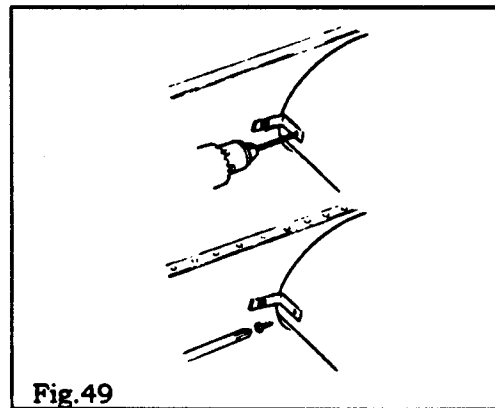

Fig.49
9.2.2.15 Drill through the holes in the vent securing brackets into the outer tube and appliance outer collar for #6 screws. *Make sure that the drill does not penetrate the inner tubes.* Secure the vent unit to the brackets with two #6, thread cutting screws supplied (As fig. 49).